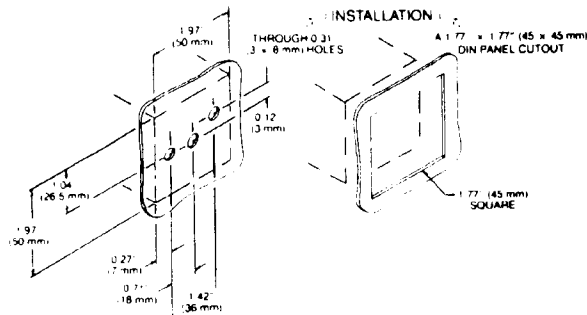

Figure 2-2. Series 6100 Mounting Dimensions
3. Use either of the following 2 steps: (refer to Figure 2-2):
- b. **3 mm x 8 mm cutout.** Panels up to $\frac{3}{32}$ " (4 mm) — leave spacer on top of unit. Panels $\frac{3}{32}$ " to $\frac{1}{8}$ " (4-7 mm) discard spacer. Panels over $\frac{1}{8}$ " (7 mm), consult OMEGA Engineering. Three holes can be drilled in panel as shown in Figure 2-2.
The layout of the front panel is shown in Figure 2-2.